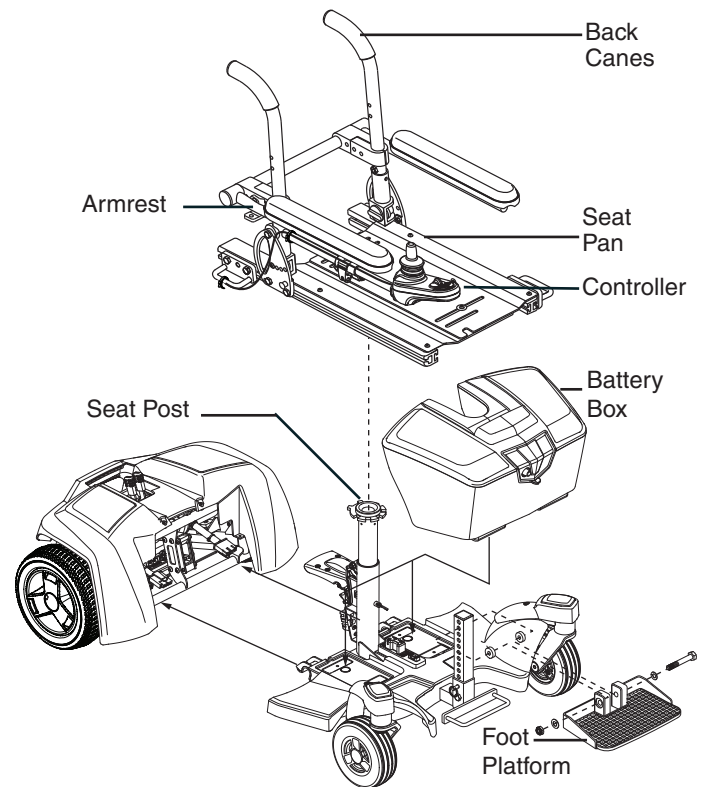

Figure 3. Kozmo Portable Assembly View
Your power chair may require some assembly either before initial use or after transportation. It may also require disassembly to make some comfort adjustments. **Figure 3** details those parts of the power chair that are designed to be disassembled and assembled by an end user or by a qualified caregiver before using the product or making comfort adjustments. There are two hex keys provided for use with controller installation and adjustment and foot platform adjustment.
1. Adjust the seat height if necessary. See "Comfort Adjustments." Set the seat onto the seat post. **See figure 3.**